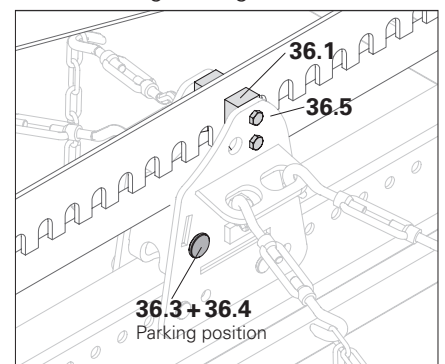

Fig. A10.03c
- The bolt and cotter pin are parked. (Fig. A10.03c)